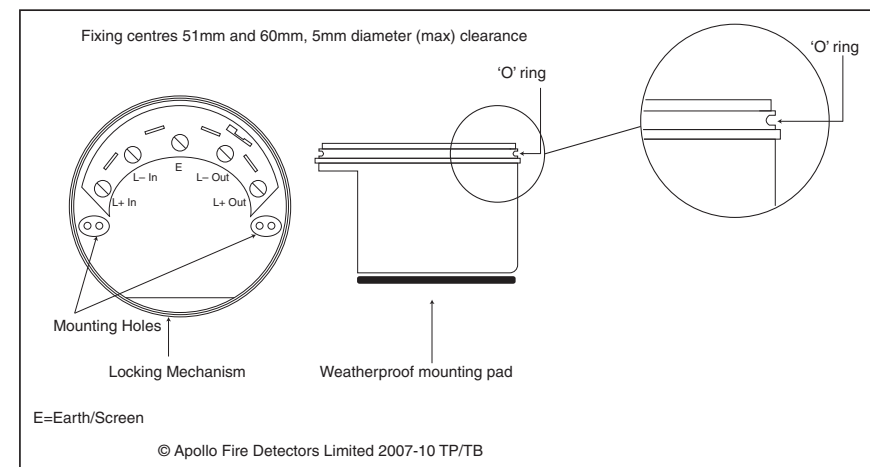

Fig 3 Base diagram
3. To lock the sounder in the base, snip the break-out on the base rim (location shown in Fig 3). Fit the sounder to the base, using above steps if IP integrity is required.